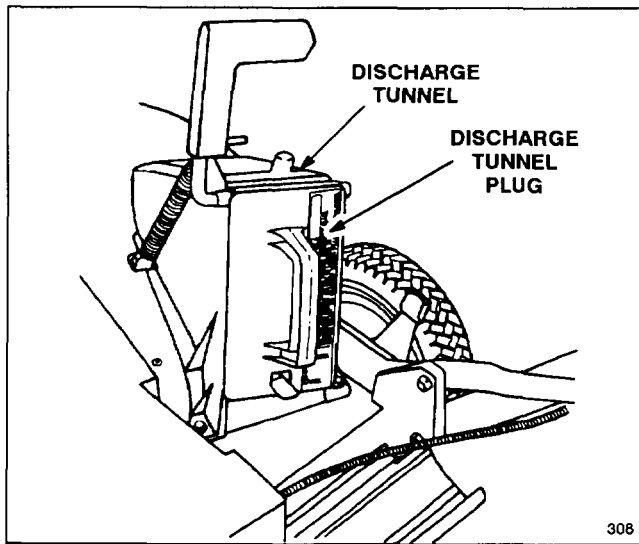

Figure 33
1. **Rear Bagging Kit, Model No. 59179**—Install discharge tunnel and rear mounting grass bag to convert the Recycler® II Super Pro® mower to a rear bagging mower (Fig. 33). Includes discharge tunnel plug.